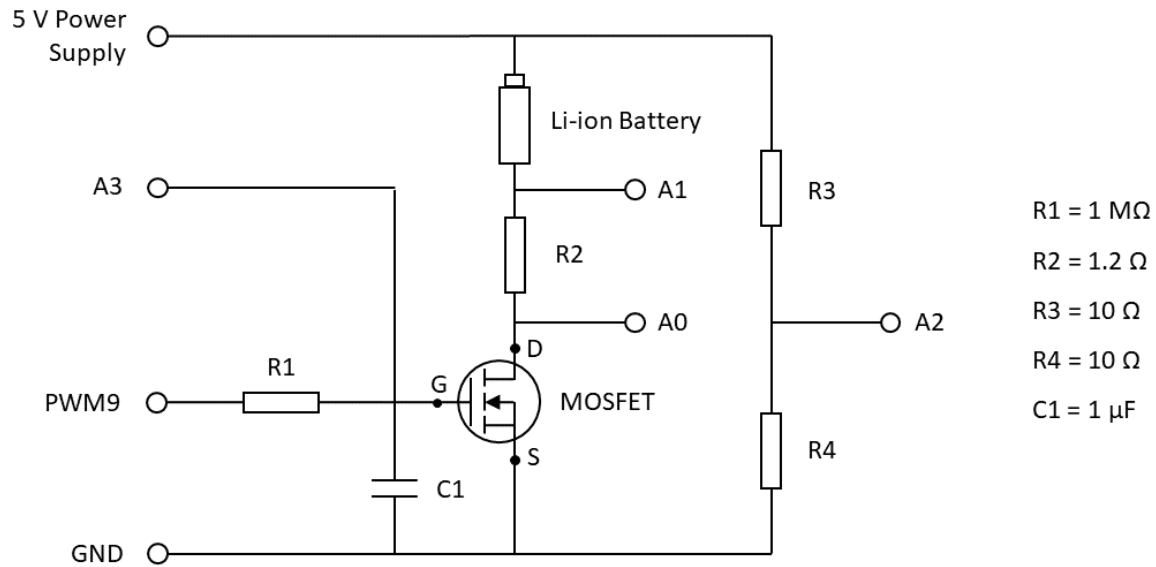

Figure 1. Charging circuit.
We start from the left-bottom part of Figure 1. The resistor R1 and capacitor C1 together work as a low-pass filter to smooth PWM signal produced by PWM9 (for more information about how a low-pass filter works on PWM signal, please see [1]). The MOSFET here works as an amplifier (here we use IRF510 MOSFET). If the voltage between Gate (G) and Source (S) (denoted as G-S voltage) increases, the current through Drain (D) and S will increase. Note that this happens only when the G-S voltage is above a cut-off value decided by the MOSFET (interested readers can refer to n-channel eMOSFET in [2]). From above, we can find that the current through the Li-ion battery can be tuned by changing the G-S voltage, which can be done by changing the duty cycle of the PWM signal by PWM9 [1]. To be brief, we can control the charging current by changing the duty cycle (for the information about how Arduino changes the duty cycle, please see [3]).